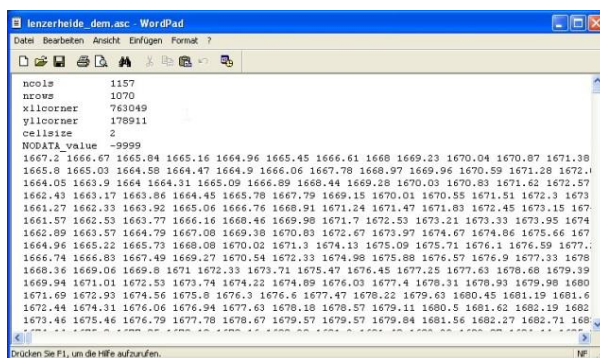

Figure 3.1 : Example ESRI ASCII grid.
- ESRI ASCII grid (Figure 3.1)
The first two data types are also available e.g. from www.swisstopo.ch. ASCII X, Y, Z data can be converted within RAMMS into an ESRI ASCII grid. Beware, that the XYZ-data must be regular! The header of an ESRI ASCII grid must contain the information shown in Figure 3.1.